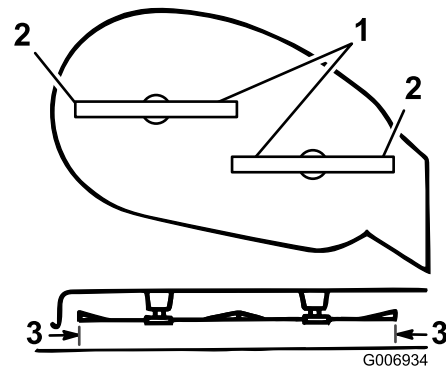

Figure 35
- Carefully rotate the blades side to side (Figure 35).
- Measure between the outside cutting edges and the flat surface (Figure 35). If both measurements are not within 3/16 inch (5 mm), adjust them; continue this procedure.